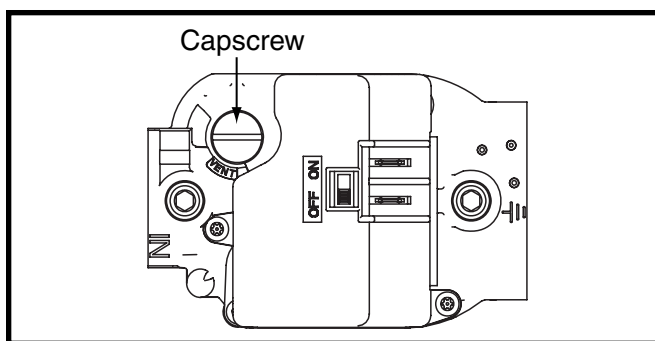

Figure 17. Regulator Capscrew
7. Remove the regulator capscrew from the INLET side of the regulator. See Figure 17, \(page 23\).